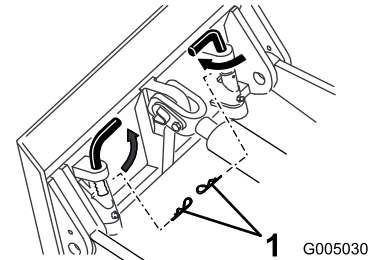

Figure 9
- Some older model traction units have holes through the spring and quick attach pins on the mount plate (Figure 9) to allow you to install two hairpin cotters when plowing long runs. This will ensure that the vibration of the plow will not cause the pins to come loose.